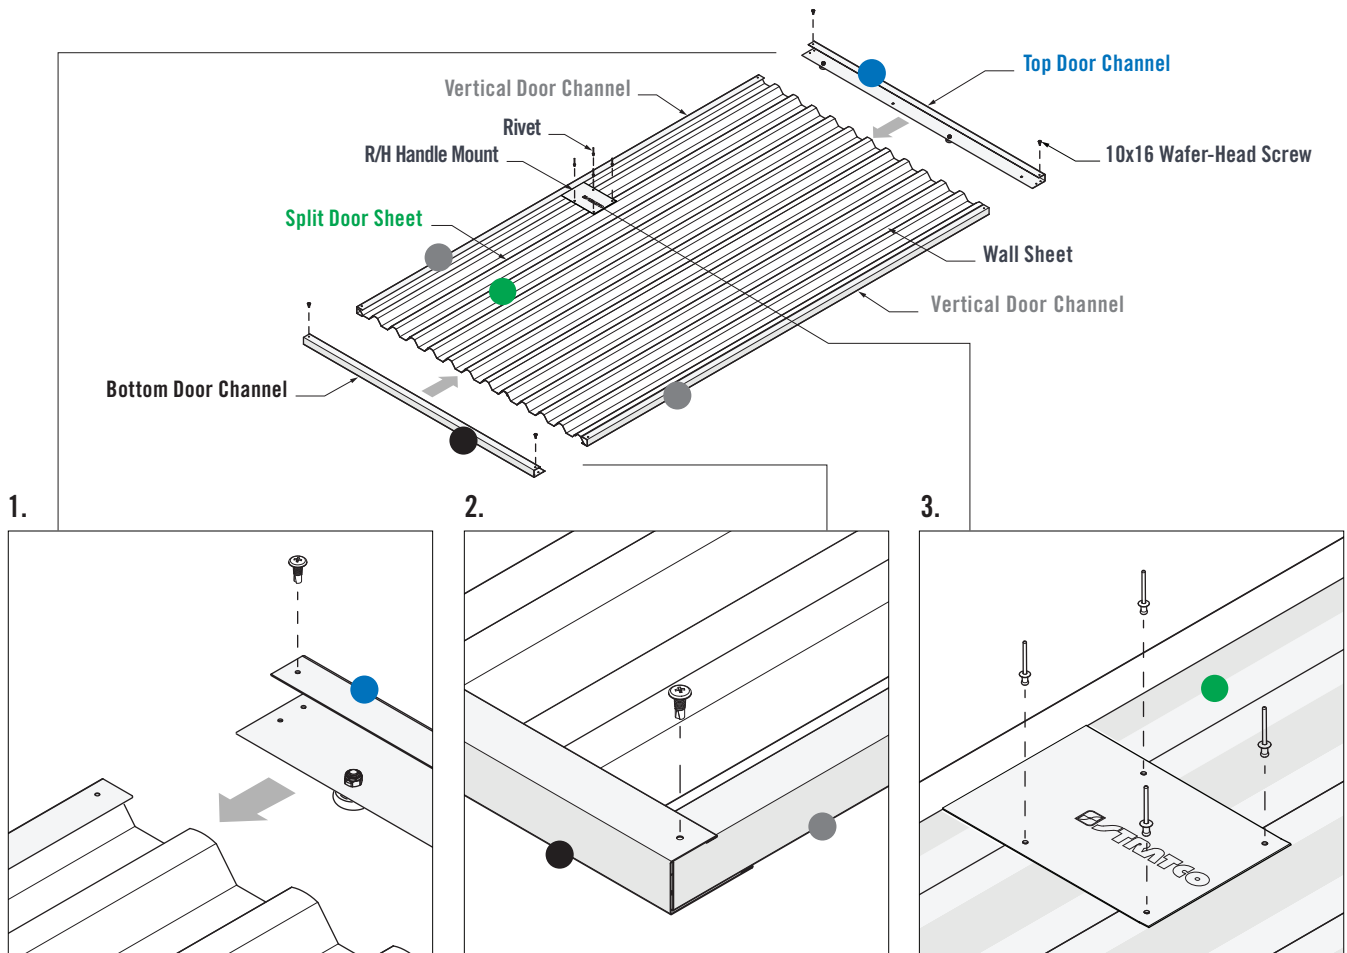

FIGURE 7.5
1. Fit the Vertical Door Channels over the side of the door sheets, then fit the **Top** and **Bottom** Door Channels over the door sheet ends. Ensure the lip of the Top and Bottom Door Channels fit over the Vertical Door Channels (Figure 7.5).
2. Fasten one 10x16 Wafer-Head Screw through the pilot holes in the corner of each **Top** & Bottom Channel and into the Vertical Door Channels (Figure 7.5).
3. Drill four 3.5mm holes through the Right Hand Handle Mount and into the **Split Door Sheet**. Install four coloured Rivets (Figure 7.5).